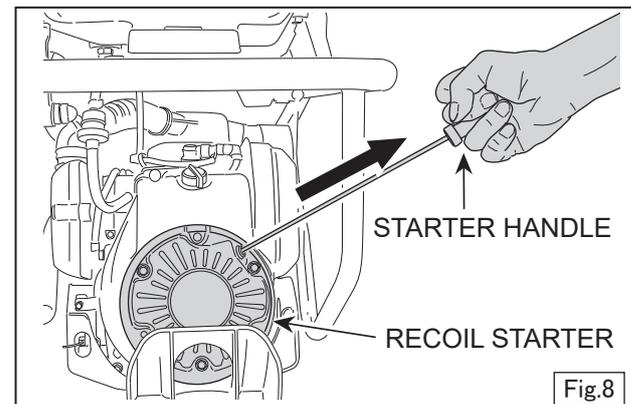

Fig.8
4. Hold the recoil starter handle and pull it a little. You will feel resistance. Then, pull it hard to turn the engine. Allow the starter rope to return slowly into the case before letting go of the handle. (Fig.8)